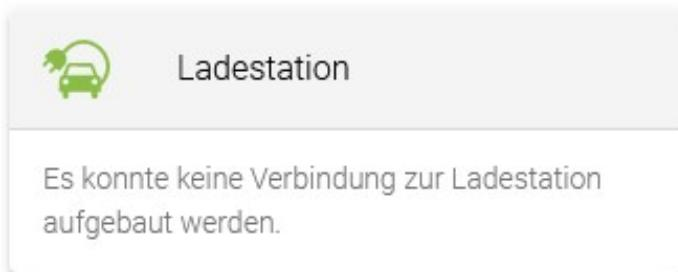

Figure 14. Charging station is not connected
- Figure 14. Charging station is not connected